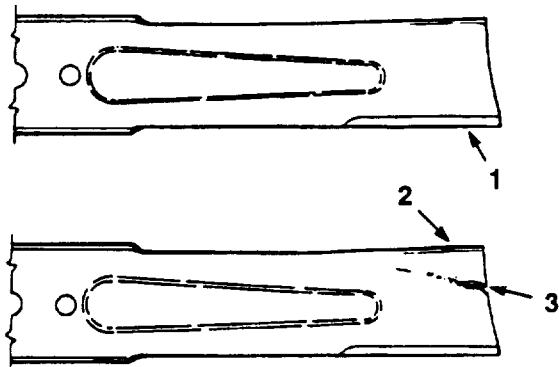

Figure 32
2. Inspect the cutting edges (Fig. 32). If the edges are not sharp or have nicks, remove the blade(s) and sharpen them; refer to Sharpening the Blade(s), page 33.
3. Inspect the blade(s), especially the curved area (Fig. 32). If you notice any damage, wear, or a slot forming in this area (Fig. 32), immediately install a new blade.